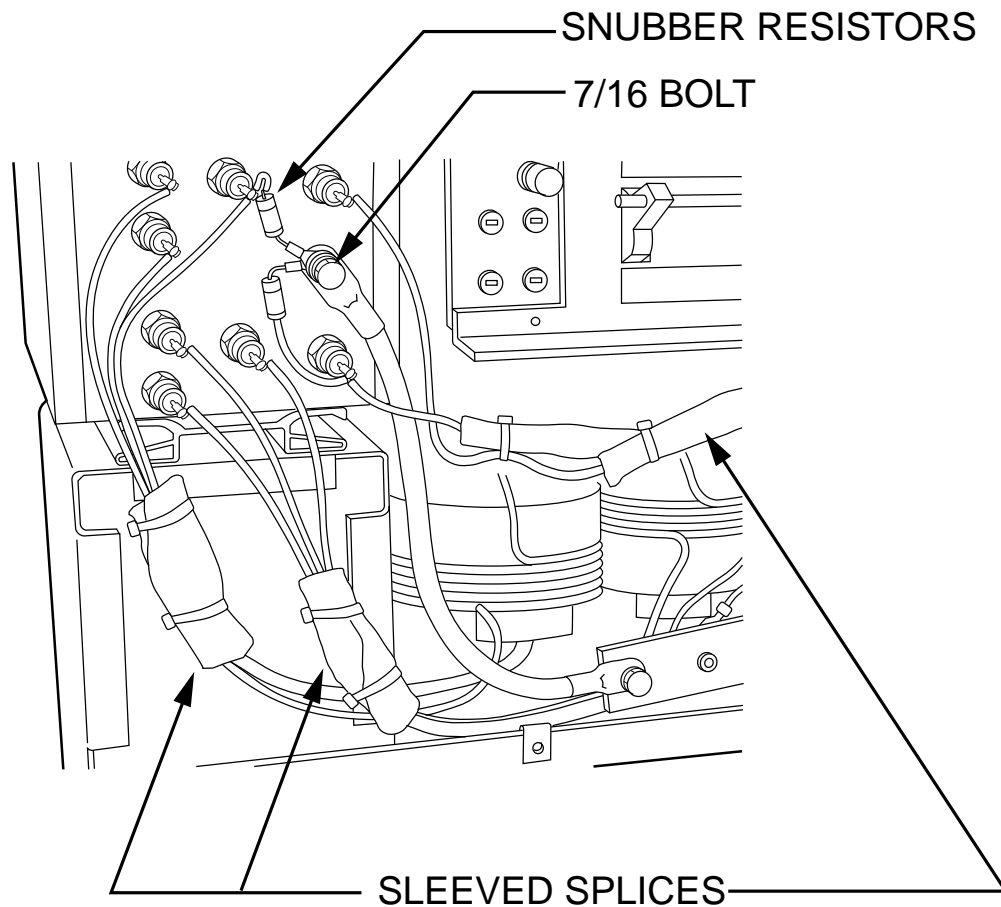

Figure F.17 Output Diode Assembly and Leads
3. Locate output diode assembly and associated leads. See Figure F.17.
4. Cut the necessary wire ties and slide the sleeving from the four wire connections to be disassembled. See Figure F.17
8. Using the 7/16" wrench remove the bolt and washers connecting the output cable to the diode heat sink. Be sure to take note of the small resistor connection at the same point. See Figure F.17.
16. Using the 7/16" wrench, bolt and washers connect the output cable to the diode heat sink. Be sure to take note of the small resistor connection at the same point. See **Figure F.17**.